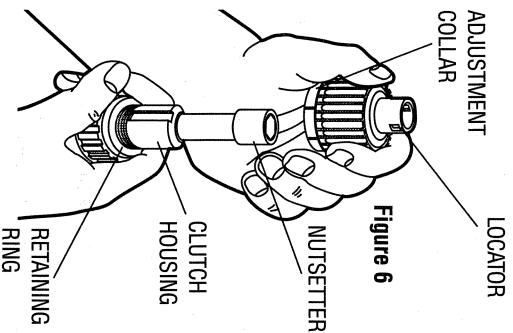

Figure 6
6. Assemble nutsetter as in Fig. 6.